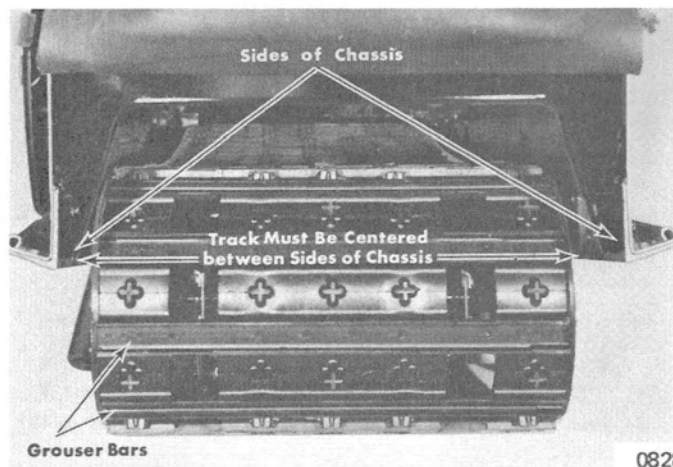

Figure 15. Checking Track Alignment
4. Scan the track, making certain that track is centered between sides of chassis. (Figure 15) If track is not centered, an adjustment is necessary. An improperly aligned track always will run or drift toward the **LOOSE** side, and this condition requires a track adjustment on the